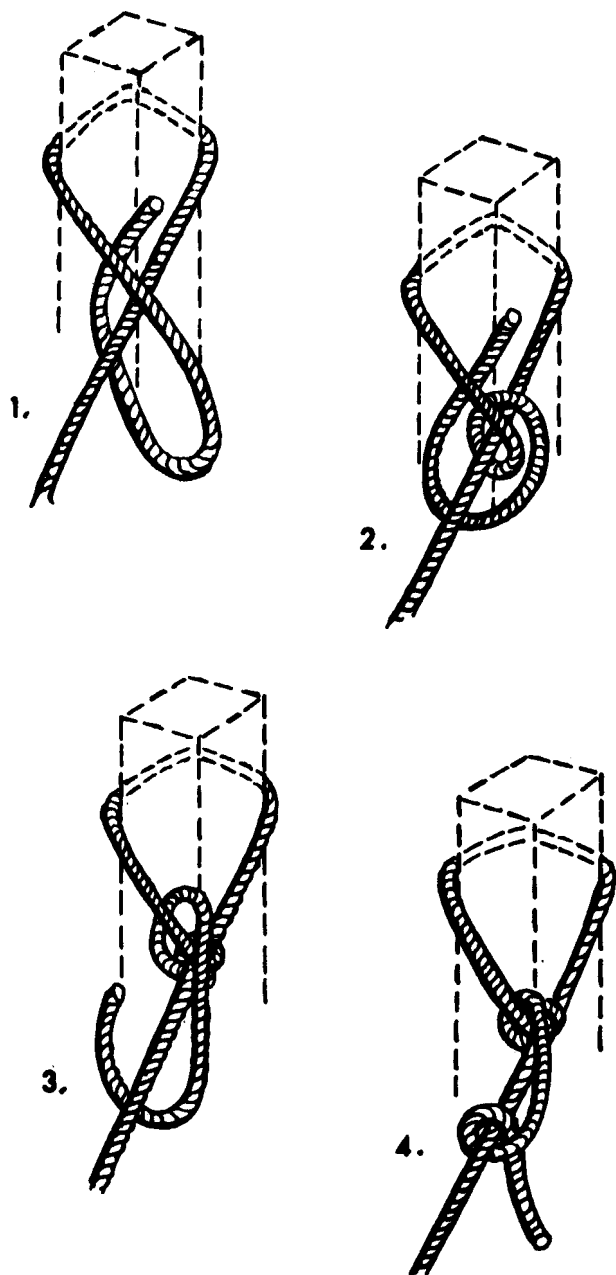

Figure 2-45. The chimney hitch.
e. *Chimney Hitch*. The chimney hitch is used when it is necessary to anchor a rope to a solid object to strengthen the position of another object, such as a charged hose or a ladder (fig. 2-45). The chimney hitch will not slip and is quickly and easily untied. This knot is used when the strain on the rope is to be constant. The rope may be shortened or lengthened by slipping the knot.